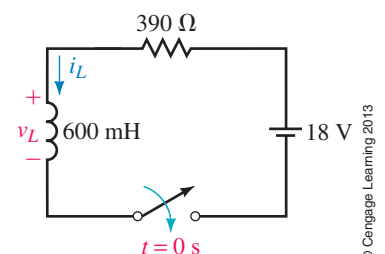

FIGURE 14-40
6. Close the switch at $t = 0$ s and determine equations for i_L and v_L for the circuit of Figure 14-40. Compute i_L and v_L at $t = 1.8$ ms.